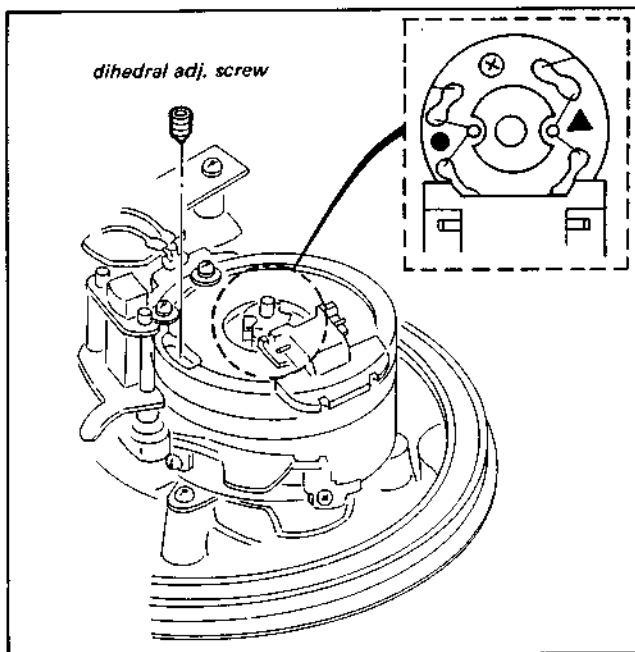

Fig. 3-55.
- When the dihedron is no-good, the preparation of the video head dihedron adjustment is to install two dihedron adjusting screws in the holes close to the small mark (●) shown in Fig. 3-55 and tighten them until the screw heads are level with the top surface of the video head disk. (If the screws are not tightened until their heads become level with the surface, the upper drum of the video head disk is caught by the adjusting screw heads and the video head disk cannot rotate. If the screws are tightened excessively, the head base is moved and the dihedron distortion becomes larger.)